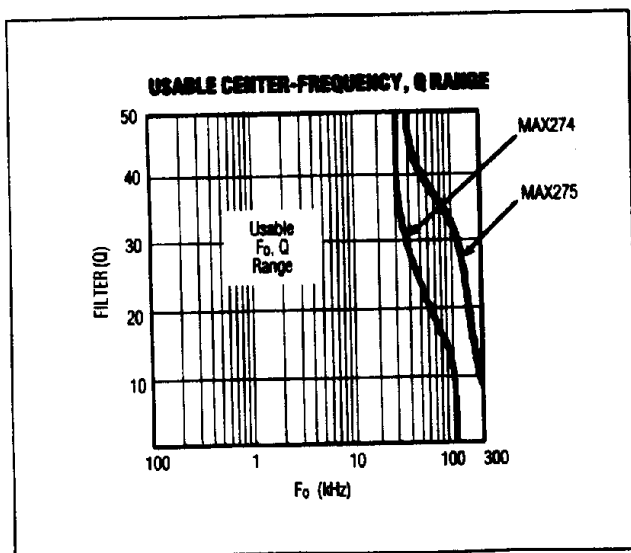

Figure 4. Usable F_o , Q Range. See *Translating F_o/Q Pairs into Hardware (Resistor Selection)*.
1. Check all F_o/Q pairs for realizability. The MAX274/MAX275 have limits on which F_o/Q values can be implemented. These limits are bound by finite amplifier gain-bandwidth and amplifier load drive capability (which limit the highest frequency F_o /highest Q_s) as well as amplifier noise pickup and susceptibility to errors caused by stray capacitance (which sets a low-frequency limit on the poles). Refer to Figure 4 to be sure each F_o/Q pair is within the "realizable" portion of the graph. If filter Q_s are too high, reduce them by increasing the filter order (that is, increase the number of poles in the overall filter).
High-frequency F_o s (up to 400kHz) and high Q_s outside of Figure 4's limits are also realizable, but F_o and Q will deviate significantly from the ideal. Adjust resistor values by prototyping.